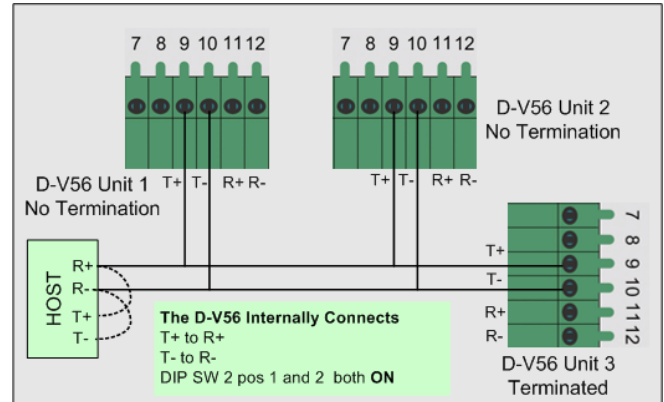

Figure 7 Connecting the RS-485 as Half Duplex
1. Using Figure 2 on page 8 and Figure 7 below as a guide, connect the RS-485 interfaces wires as shown between the units.
When these DIP switches are ON the interface lines are automatically connected as shown in Figure 7. This connects R - to T - and R + to T + enabling the interface to work in half-duplex mode.
3. Jumper the RS-485 output terminals on the Host as shown in Figure 7 above if required.